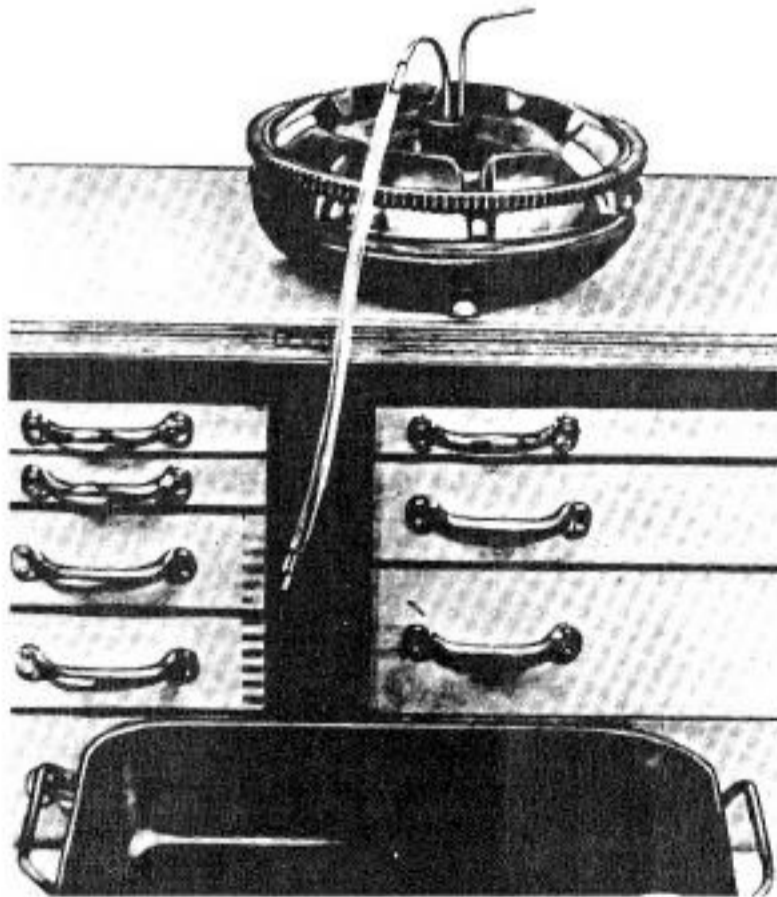

Fig. 8-3. Siphon and oil receptacle in position.
1. Install the siphon, as shown in Fig. 8-3.